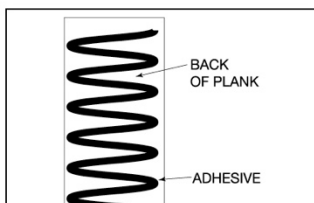

Figure 7
- Use the longest, straightest boards available for the first two rows. For random and alternating width products, use the widest plank for the first row. Align tongue of first row on chalk line. The groove should be facing the starting wall. Pre-drill 1/2" (13 mm) from back (groove) edge, 1"-2" (2.5-5 cm) from each end, and at 6" (15 cm) intervals when possible (Figure 7). Fasten using 4 or 6d finishing nails or 1" (2.5 cm) pneumatic finish nails/brads. Countersink the nails.